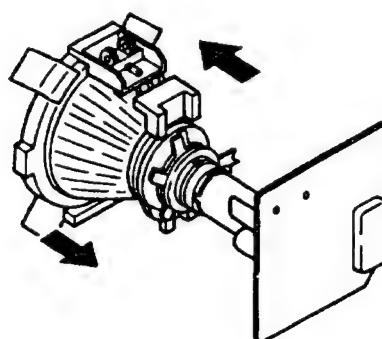

Fig. 3-1
(see Fig. 3-1 through 3-3.)
- Move the deflection yoke forward and adjust so that entire screen is red. (See Fig. 3-1.)